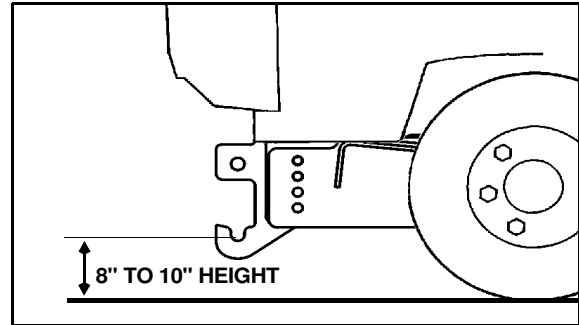

Figure 7
10. Position the Vehicle Center Member (#1) between the Side Mounting Weldments (#2 & #3) to allow for an 8" to 10" height between the VCM and the ground. (See Figure 7.)